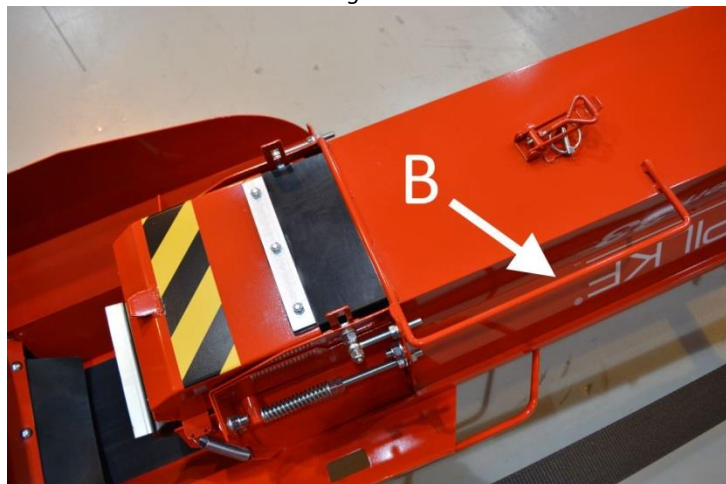
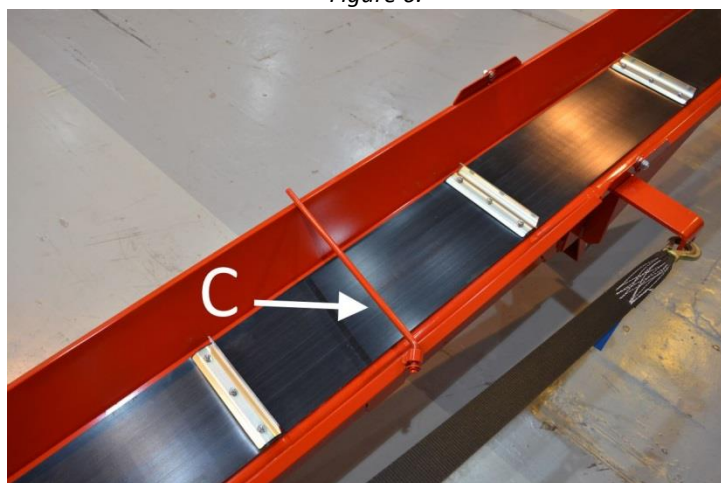

Figure 6.
Figure 7.
8. Turn the upper section of the conveyor into the operating position using handle B (Figure 6).
9. Turn transport position support bar C on the out-feed conveyor belt (Figure 7) to the side.
3. Turn support bar C (Figure 7) to a position over the belt, and turn the upper section of the conveyor onto the lower section using handle B (Figure 6).